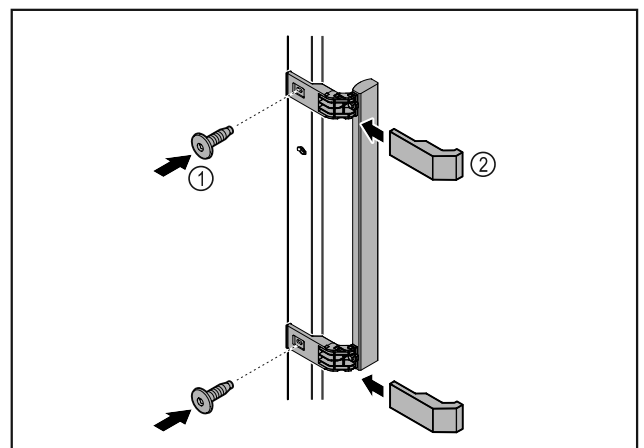

Fig. 5
- ▶ Attach handle from accessory kit to the door using the screws supplied *Fig. 5 (1)*.
- ▶ Put on cover *Fig. 5 (2)*.